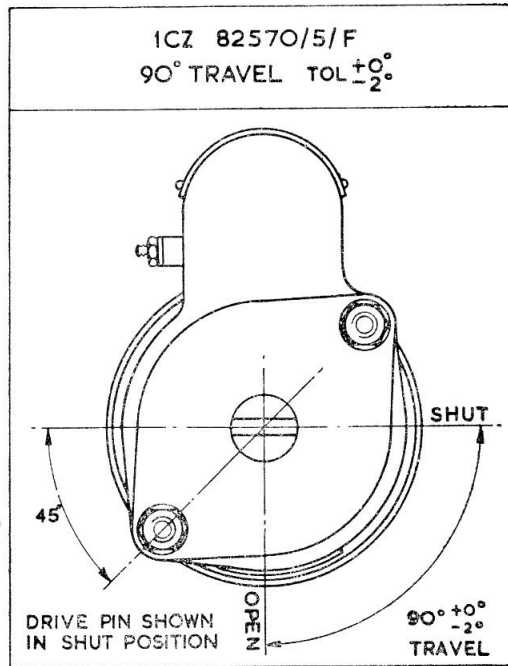

Fig. 7. Angular stroke travel drawing
18. The CZ82570/5/F actuator has 90 degrees angular travel in 3.0 seconds (*fig. 7*).